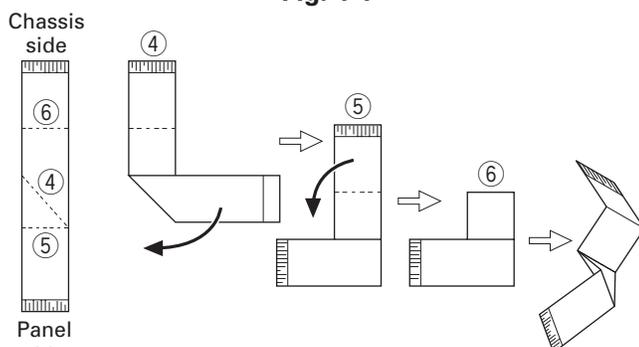

Fig. 4-2
1. Lift the two tabs of the panel on the bottom of the transceiver with a flat-head screwdriver ( ① ) and remove the panel from the chassis ( ② ).
2. Remove the flat cable from the connector (CN902) of the display unit of the panel. ( ③ )
3. Fold the black line of the flat cable (in three parts) as shown in Figure 4-2. ( ④, ⑤, ⑥ )